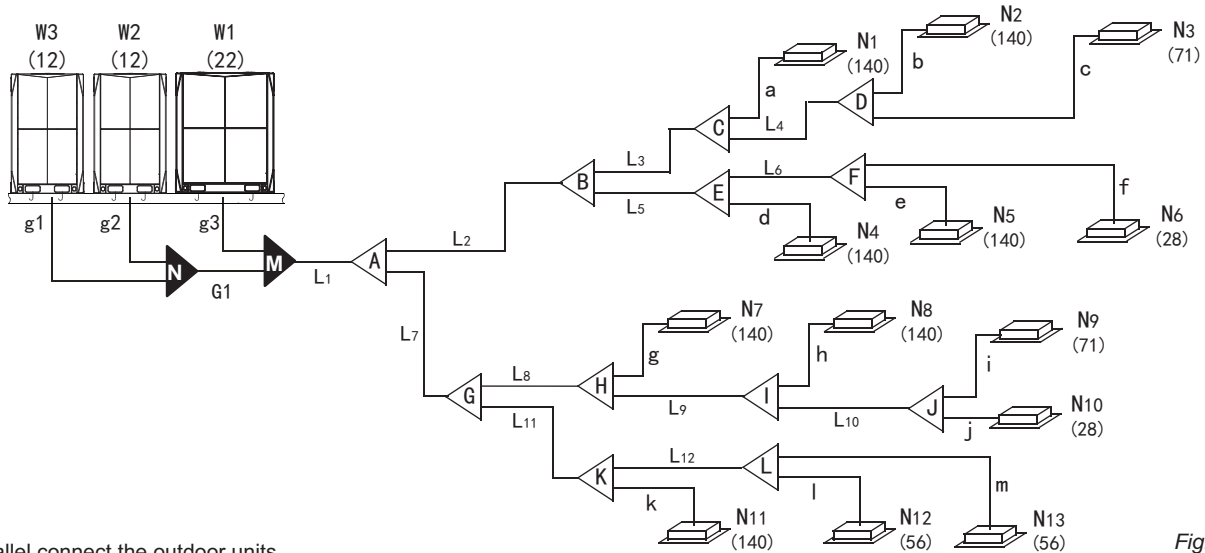

Fig.5-4
- Take Fig.5-4 as an example. Provided that the equivalent length of all pipes in this system is larger than 90m.